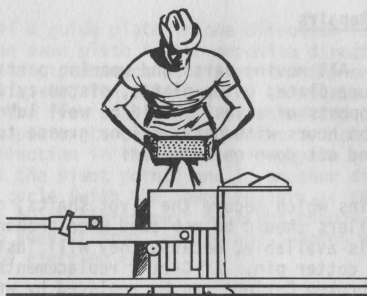

Fig. 13 - Removing the Block.
- (13) If the blocks are lifted from the machine and carried properly and carefully, and if the mixture is correct and the machine is in good adjustment, the blocks will not break easily.
- (a) Press in on opposite ends of the block with the fingers closed, the thumbs in close to the fingers, and using part of the palms (see Fig. 13).